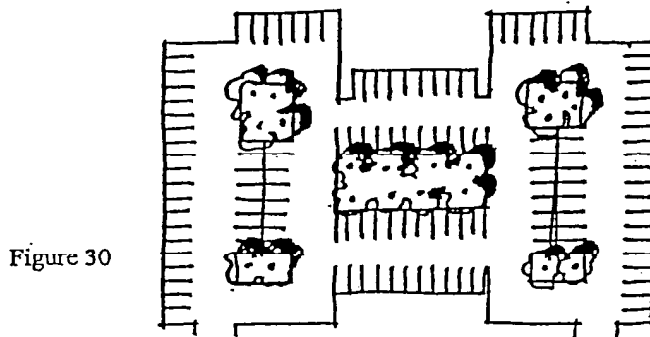

Figure 30
- ☐ Where possible, provide larger landscape islands within parking lots and plant them with stands of trees rather than trees in a row (Figure 30).